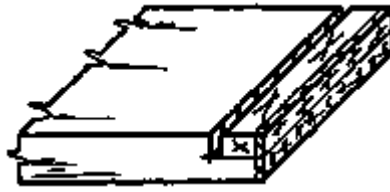

Fig. 4
- Saw the shoulders down to the gauge line. Cut on the waste side of the line. If the piece is very wide, nail or clamp a guide over the line to guide the saw. Use a backsaw (Fig. 4).